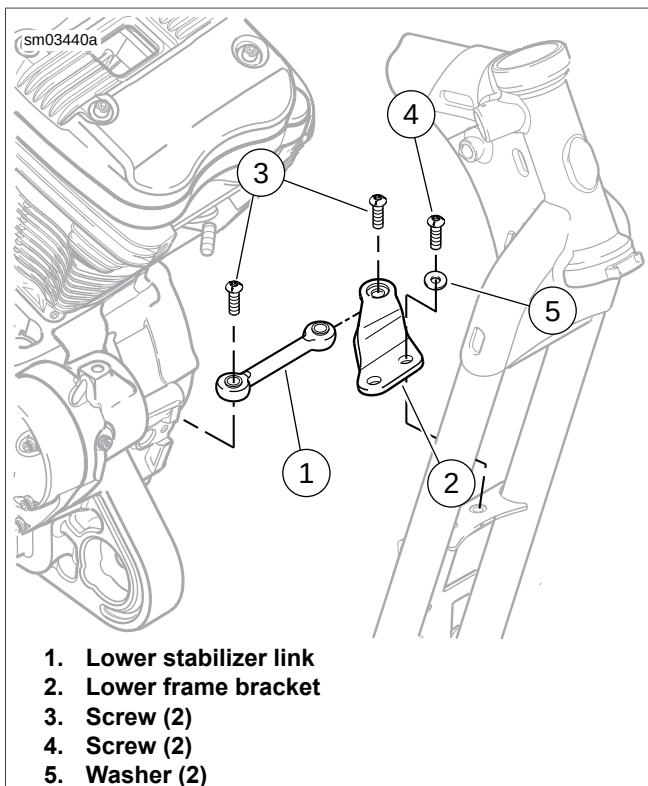
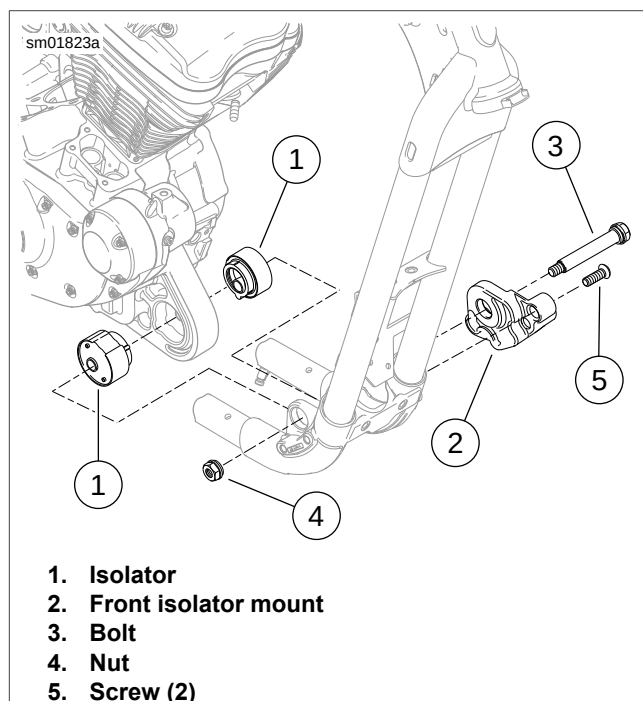

Figure 2-168. Lower Front Stabilizer Link Assembly (typical)
Figure 2-170. Front Engine Mount/Isolator
2. See Figure 2-168. Remove screws (3) and stabilizer link (1).
3. Remove screws (4), washers (5) and lower frame bracket (2) from frame.
1. See Figure 2-168. Install screws (4), washers (5) and lower frame bracket (2) to frame. Tighten to 25-35 ft-lbs (33.9-47.5 Nm).
2. Install stabilizer link (1). Secure with screws (3). Tighten to 25-35 ft-lbs (33.9-47.5 Nm).
8. See Figure 2-168. Remove screw (3) securing lower front stabilizer link (1) to stabilizer link bracket (2).
See Figure 2-170. Jack the engine up or down to remove bolt (3).
10. Remove nut (4) and bolt (3) from front engine mount/isolator assembly.
11. Remove screws (5) from front isolator mount (2) on left side of motorcycle. Remove isolator mount and left front isolator (1).
14. Remove the right front isolator (1) from the crankcase.
1. See Figure 2-170. Install both front isolators (1) in engine mounting boss on front of crankcase. Note that each isolator has a half-moon tab and fits into engine mounting boss in only one way. Push engine to the right until right isolator contacts frame boss.
2. Install front isolator mount (2) over left front isolator.
3. Install screws (5) through front isolator mount and thread into frame. Tighten to 25-35 ft-lbs (33.9-47.5 Nm).
4. Insert bolt (3) through front isolator/engine mount assembly from left side. Thread nut (4) onto bolt. Tighten to 95-105 ft-lbs (129-142 Nm).
5. See Figure 2-168. Attach lower front stabilizer link (1) to bracket (2) with screw (3). Tighten to 25-35 ft-lbs (33.9-47.5 Nm).
15. See Figure 2-168. Remove screw (3) securing lower front stabilizer link (1) to stabilizer link bracket (2).